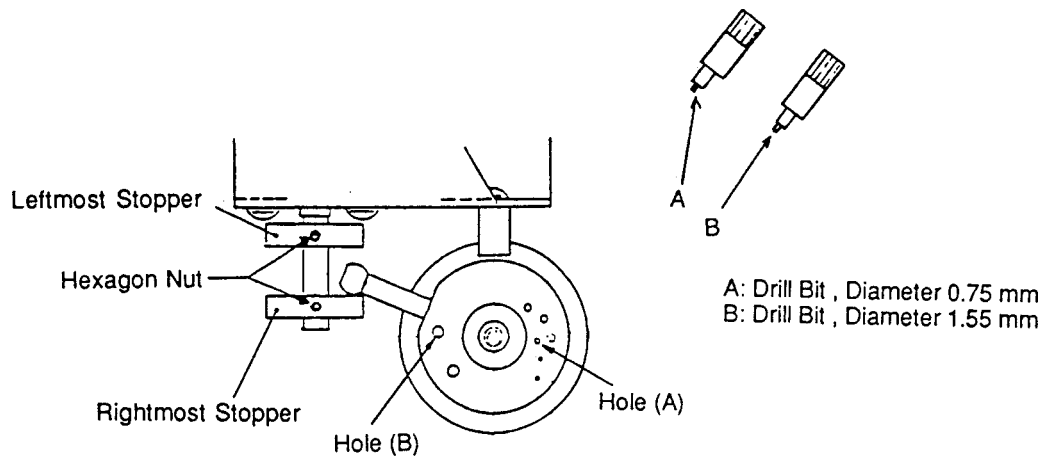

Figure 6-4-8 SRV Stop Position Adjustment
- B. Insert the alignment tool-A into the hole (A).
- E. Loosen the hexagon nut of the Leftmost Stopper as shown Figure.6-4-8.
- B. Insert the alignment tool-B into the hole (B).
- C. Confirm that the alignment tool (B) is inserted into the S.R.V. If the alignment tool can not be inserted smoothly, adjustment is required: